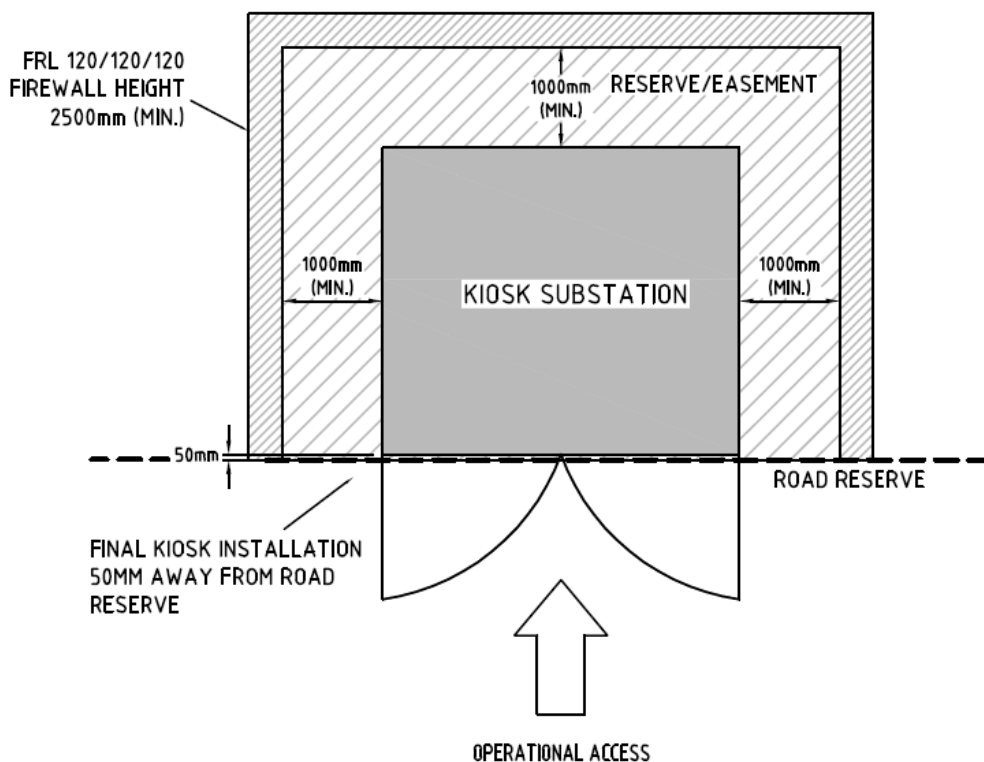

Figure 4 – Square Type 1 with Two Hour Fire Rated Wall
- 5.4. **Square type 2 with 2 hour fire rated wall** – Kiosk transformers have both HV and LV compartments accessible from the front (i.e. side by side). Kiosk has two hour fire rated walls with minimum FRL 120/120/120 at the rear and parallel sides and its doors open in kiosk reserve/easement as shown in fig 4. Firewall height shall be a minimum of 2500mm. The minimum Kiosk reserve/easement requirements are given in table 2.